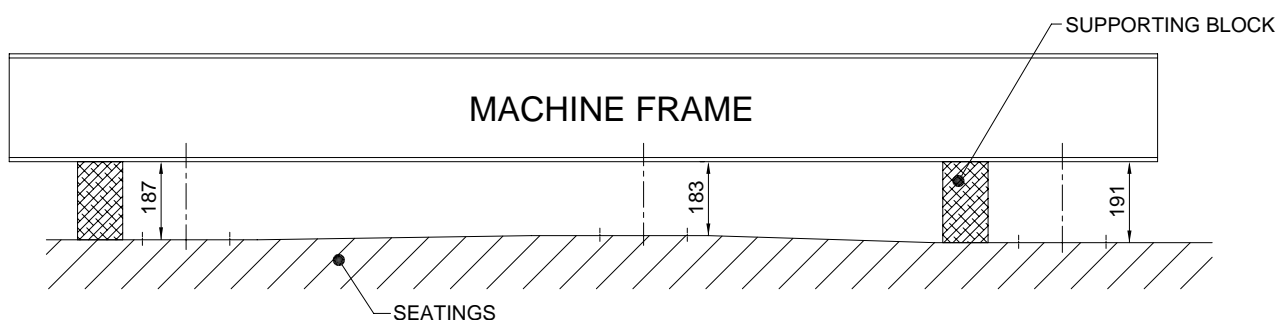

Figure 2
3. Position blocks to support the machine in a level state with the smallest mounting space set at 183 mm high. This value is based upon the seating being out no more than 9 mm from highest to lowest point within the isolator envelope, see example in figure 2.